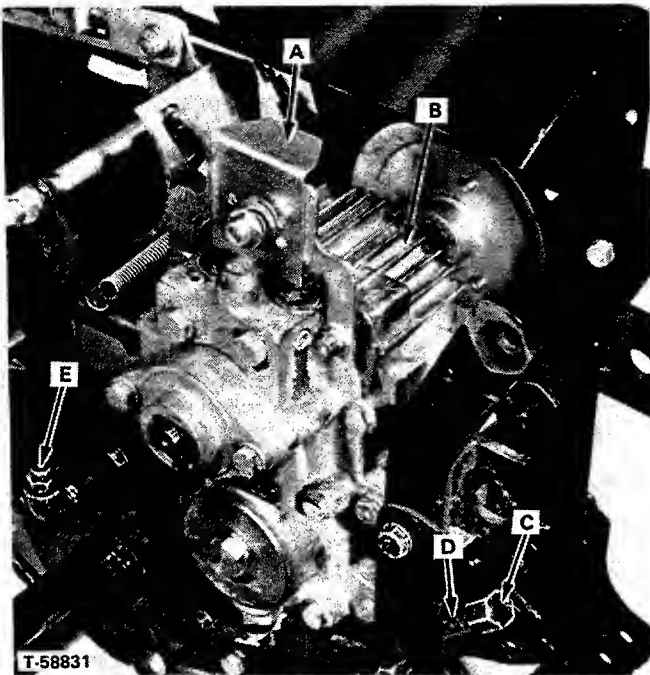
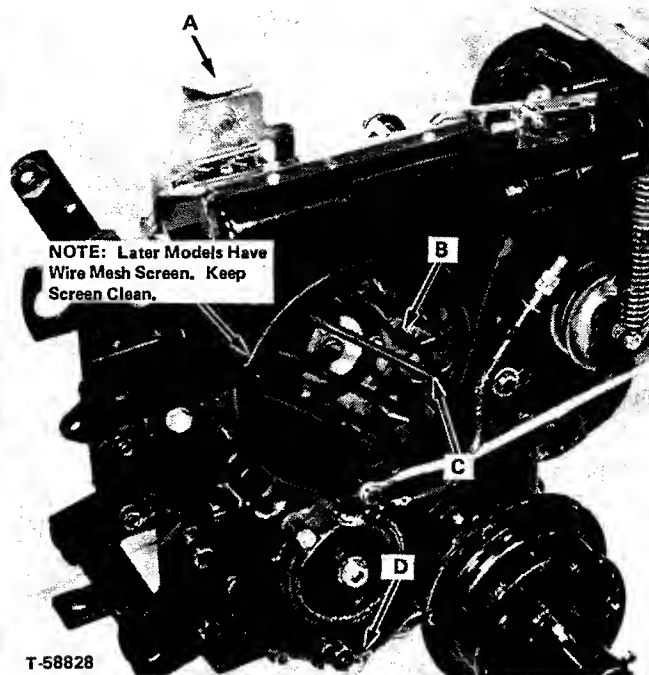

FIGURE 9 - Hydrostatic Transmission
FIGURE 10 - Hydrostatic Transmission
1. The tractor must be on a level surface and the free wheeling latch (A, Figure 9) must be completely down.
2. Wipe the transmission fill cap (C) and fill tube (D) clean. Remove the cap (C).
3. Lift and hold the relief valve (E) open.
1. With hydrostatic transmission fluid hot, park tractor on level ground, place hydrostatic control lever in neutral, place any PTO clutch levers in the disengaged position, engage parking brake, and stop engine. Press free wheeling latch (Figure 9) down firmly to disengage the hydrostatic pump.
2. Remove hydrostatic transmission drain plug (D, Figure 10) from lower R.H. side. Remove dirt from around the fill cap (C, Figure 9) and loosen cap to permit air to enter transmission.
5. Remove the fill cap (C, Figure 9) and clean dirt away from the relief valve (E). Using a clean funnel, add Allis-Chalmers Power Fluid 821 into the fill tube, while holding the relief valve up until fill tube will accept no more fluid. Replace the fill cap hand tight.